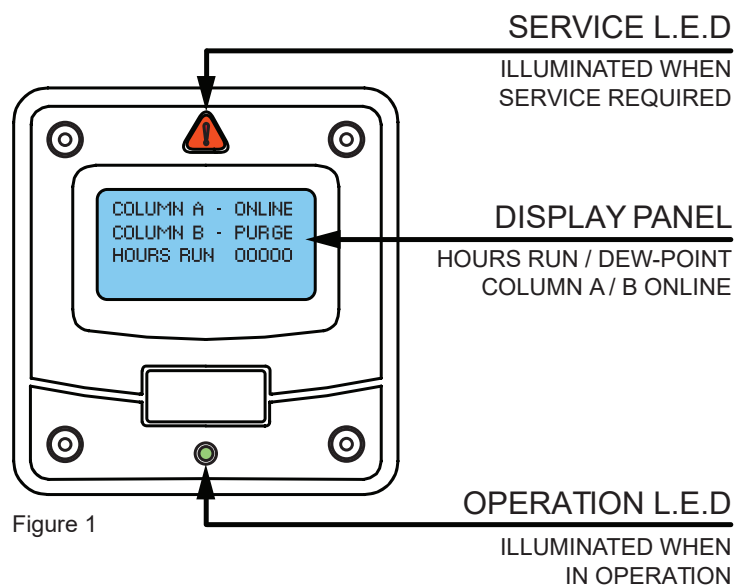

Figure 1
- The set levels for the ES and dew point alarm are adjustable and can be accessed by carefully removing the front bezel to expose the PLC and adjustment buttons (see Figure1.)